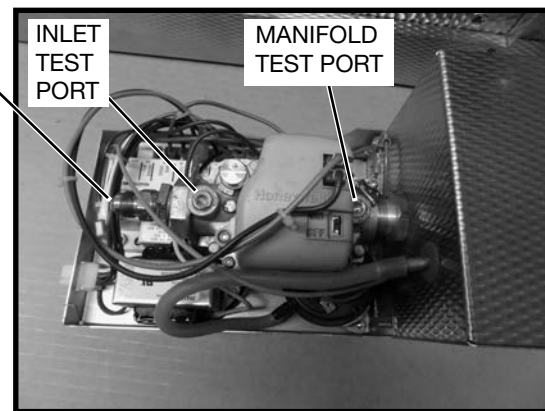

Figure 14: Gas valve assy.
2. Locate the inlet and manifold test points on the Gas valve (Figure 14). After locating manifold test port, loosen and remove the screw within the port using a 3/16 Allen wrench.